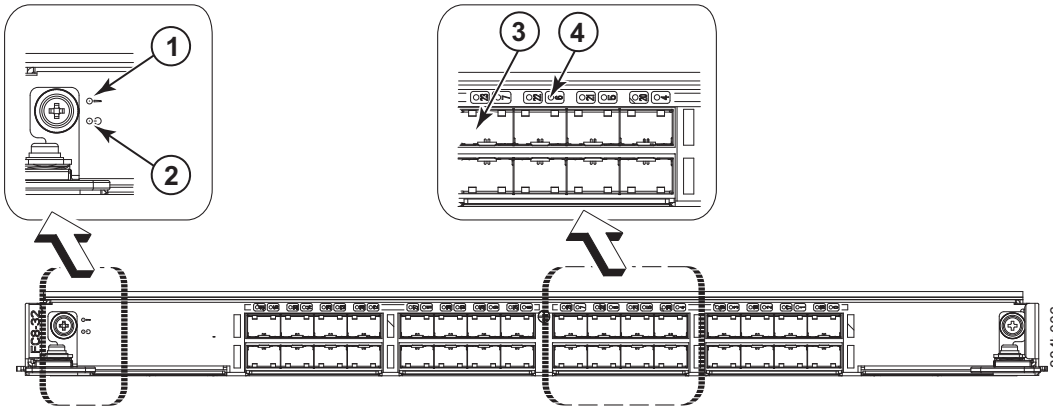

Figure 20. FC8-32 port blade
- Figure 20 on page 50 illustrates the FC8-32 port blade